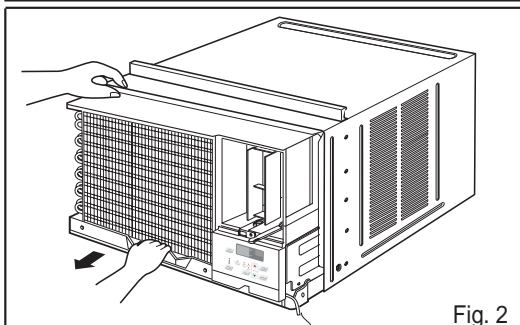

Fig. 2
2. Slide the unit out from the cabinet by gripping the base pan handle and pulling forward while bracing the cabinet. (Fig.2)